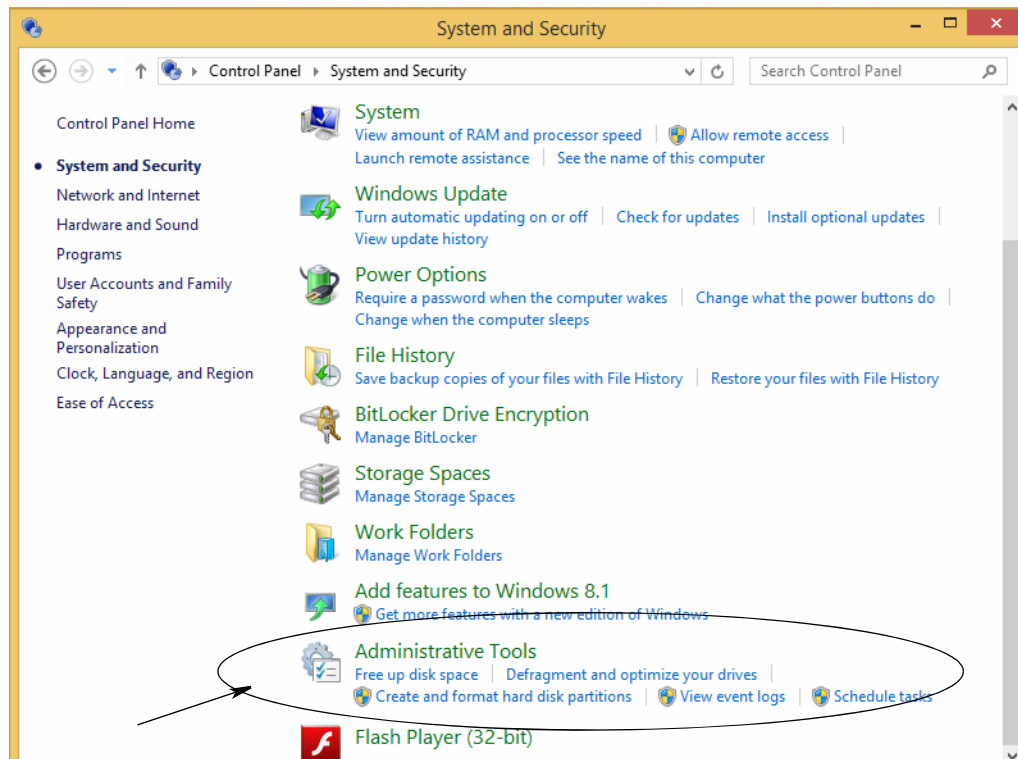

FIG. 211
- a. Access the control panel and select System and Security. Double click on the Administrative Tools link (FIG. 211).